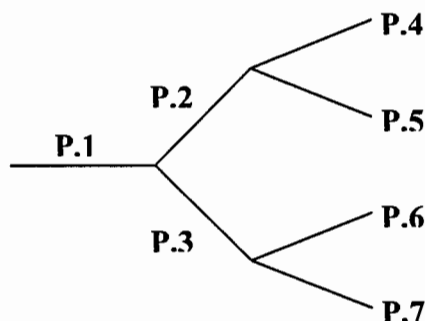

Figure Q3
- (c) Water is flowing through the pipe network shown in Figure Q3. Water flows through Pipe 1 (diameter, 40 cm) at a rate of $2 \text{ m}^3/\text{s}$. It is required that Pipes 4 – 7 have the same pipe diameter and that Pipes 4 – 6 carry 10%, 20% and 55% of the flow respectively. It is also required that the velocity of the flow in Pipe 7 be half that in Pipe 1. Calculate the water velocities and the diameter of Pipes 4 – 7. (8 marks)